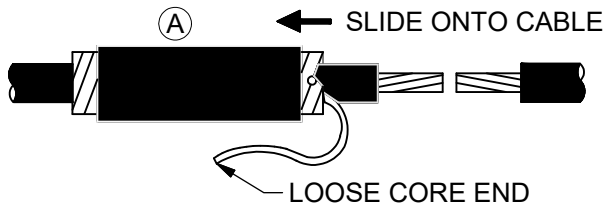

Figure 3
3. Slide cold shrink splice onto one of the cables. See Figure 3.